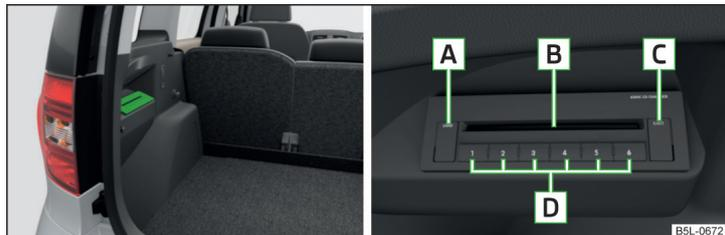

Fig. 123 The CD changer
➤ Touch the button [C] » Fig. 123 and guide the CD (compact disc) into the CD-case [B]. The CD is automatically loaded onto the lowest free position in the CD changer. The indicator light in the corresponding button [D] stops flashing.
➤ Press and hold the button [C] » Fig. 123 for longer than 2 seconds and guide the CDs one after the other (maximum 6 CDs) into the CD case [B]. The indicator lights in the buttons [D] stop flashing.
- Press the button [C] » Fig. 123. The indicator lights in the buttons [D] illuminate the memory spaces that are already assigned and flash in the case of free memory spaces.
- Press button [A] » Fig. 123. For assigned memory spaces, the indicator lights now illuminate in the buttons [D].
- Press and hold the button [A] » Fig. 123 for more than 2 seconds. All CDs in the CD-changer are ejected consecutively.
- Insert a CD, with the labelled side facing up, into the CD slot [B] » Fig. 123 until it is automatically drawn in. The play function will start automatically.